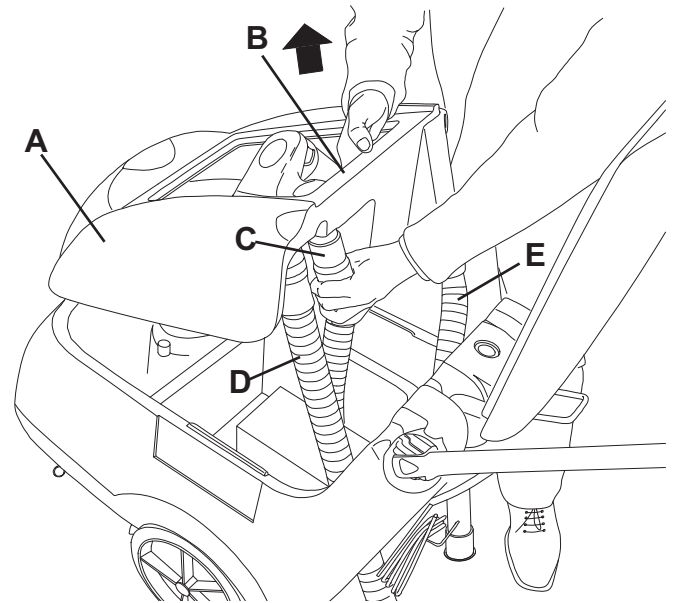

Figure 2
4. Disconnect the vacuum hose (22) from the squeegee (11).
5. Disconnect the recovery water drain hose (16) from the bracket (17).
6. Open the cover (6).
7. Grasp the recovery tank (A, Fig. 2) in the area (B) and slightly raise it.
8. Disconnect the vacuum hose (C) from the tank, then remove the tank (A) with the hoses (D) and (E).
9. Install the batteries on the machine according to the diagram (28).
10. Install the tank (A, Fig. 2) by performing steps 6 to 10 in the reverse order.